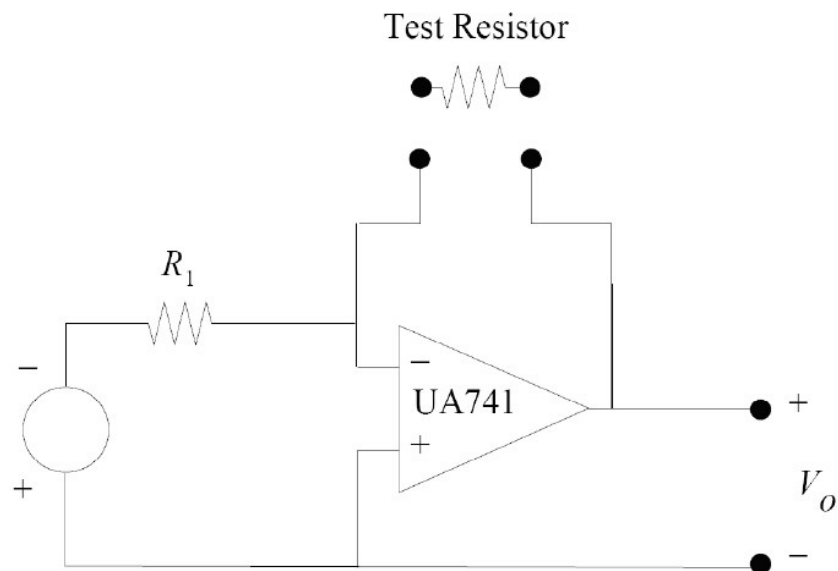

Fig. 1
2. The operational amplifier, or op-amp, circuit shown in Figure 1 is proposed as an ohmmeter to measure unknown resistances. Find a value for R_1 so that the voltmeter connected to the output will read the resistance in kilo-ohms (i.e. $1\text{ V} = 1\text{ k}\Omega$, $2\text{ V} = 2\text{ k}\Omega$) when the voltage source is 1 V .
Important Note: Please remember to turn off all power supplies to your circuit before making modifications to your circuits, such as when you move the test resistor in Figure 1 in and out of the circuit, since that eliminates the critical feedback path. Failure to turn off all power supplies will probably damage your op-amp in some way resulting in unpredictable behavior of your circuit.
- B1.** Create the circuit shown in Figure 1 with $R_1 = 1$ k Ω , and perform the following experiment.